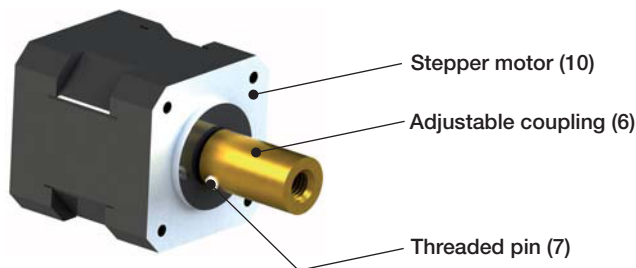

Fig 7: Stepper motor with adjustable coupling
Unscrew four cylinder screws (8). Connect the stepper motor to the stepper motor control and move the venturi insert (4) to its mechanical stop in the mixer body (1) by moving the stepper motor in the “lean” direction (mixing gap becomes smaller). Unscrew the stepper motor with adjustable coupling (6) (Figure 7) by moving it further in the “lean” direction of the pin (21) while securing the stepper motor against rotating.
Disassemble the adjustable coupling (6) from the shaft of the stepper motor (10). For this purpose, the threaded pin (7) (Figure 7) is loosened. Then carefully clean and dry all dismantled parts. Check the condition of the transmission thread of the adjustable coupling.